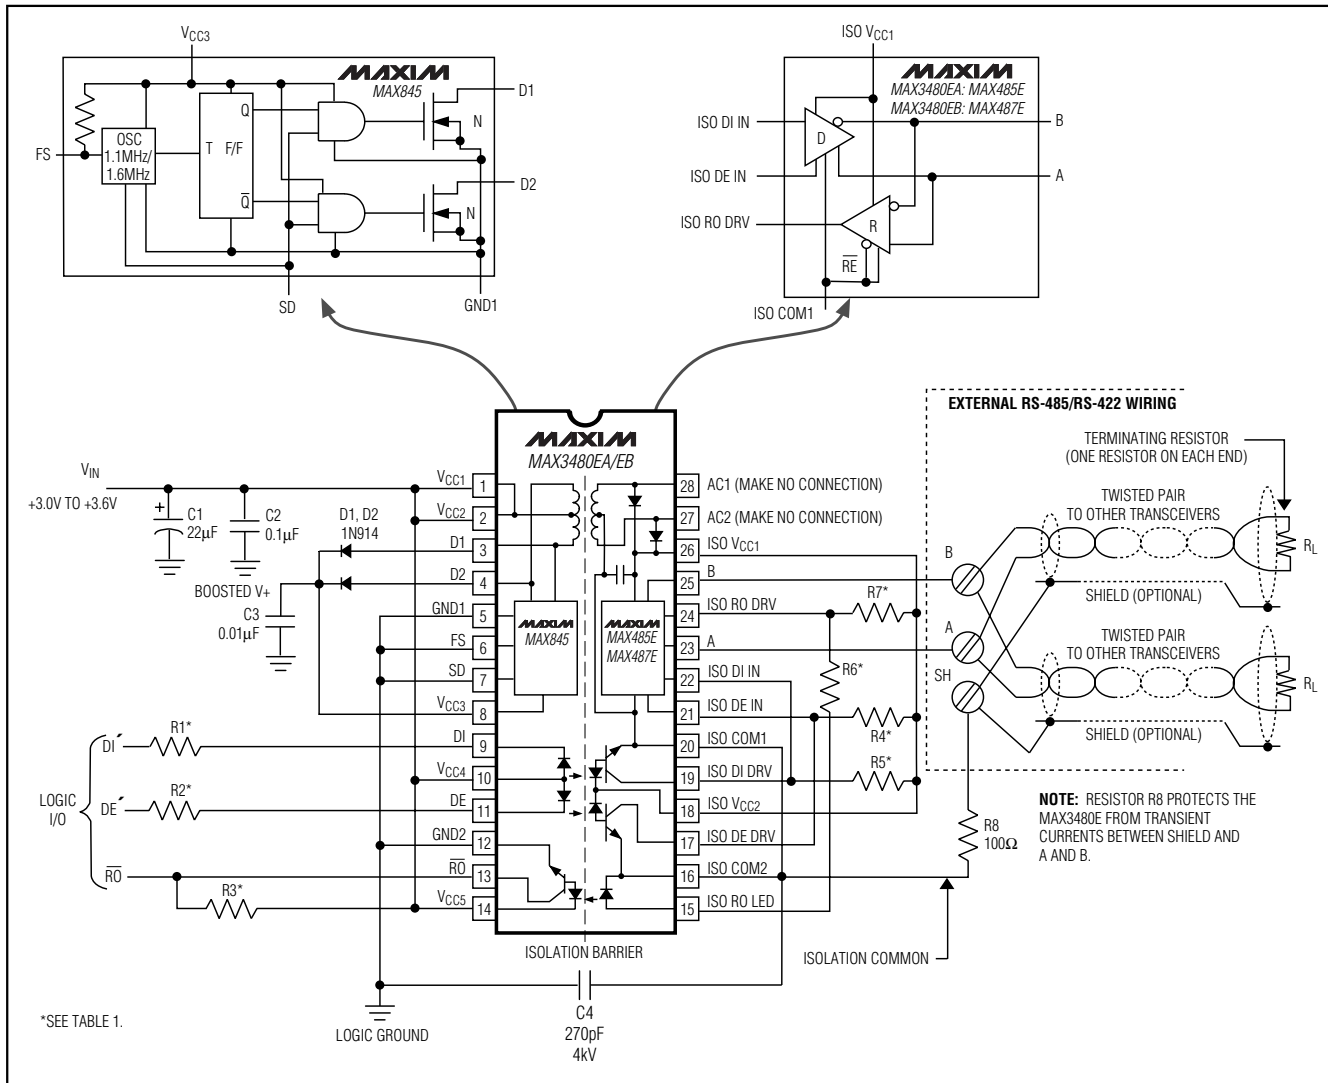

Figure 1. Detailed Block Diagram
**Note 2:** For DE' and DI' pin descriptions, see *Detailed Block Diagram* and *Typical Application Circuit* (Figure 1 for MAX3480EA/MAX3480EB).
( $V_{CC-} = +3.3\text{V}$ ,  $T_A = +25^\circ\text{C}$ , Figure 1, unless otherwise noted.)
( $V_{CC-} = +3.3V$ ,  $T_A = +25^\circ C$ , Figure 1, unless otherwise noted.)
| 3, 4                                | D1, D2                 | Boost-Voltage Generator Outputs. See Figures 1 and 2.                                                                                                                                                                                                                                                                                                        |
| 8                                   | V CC3       | Boosted V+ Voltage Input. Must be connected as shown in Figures 1 and 2.                                                                                                                                                                                                                                                                                     |
| 17                                             | ISO DE DRV | Isolated Driver-Enable Drive Input. The driver outputs, A and B, are enabled by bringing DE' high. The driver outputs are high impedance when DE' is low. If the driver outputs are enabled, the device functions as a line driver. While the driver outputs are high impedance, the device functions as a line receiver. Open collector output; must have pullup (R4 in Figure 1) to ISO VCC and be connected to ISO DE IN for normal operation (Table 1). |
| 19                                             | ISO DI DRV | Isolated Driver-Input Drive. With DE' high, a low on DI' forces output A low and output B high. Similarly, a high on DI' forces output A high and output B low. Open-collector output; must have pullup (R5 in Figure 1) to ISO VCC and be connected to ISO DI IN for normal operation (Table 1).                                                                                                                                                           |
| 24                                             | ISO RO DRV | Isolated Receiver-Output Drive. Connect to ISO RO LED through R6 (Table 1 and Figure 1).                                                                                                                                                                                                                                                                                                                                                                    |
isolation barrier (Figure 1). Power is transferred from the logic side (nonisolated side) to the isolated side of the barrier through a center-tapped transformer. Signals cross the barrier through high-speed optocouplers. A single +3.3V supply on the logic side powers both sides of the interface.
Resistor R8 (Figures 1 and 2) provides additional protection by current limiting between the shield and the two signal wires. In the event that shielded cable is used and an external voltage or transient is inadvertently applied between the shield and the signal wires, the MAX3480EA/MAX3480EB can be damaged. Although unlikely, this condition can occur during installation.